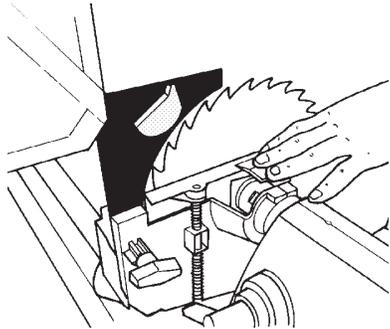
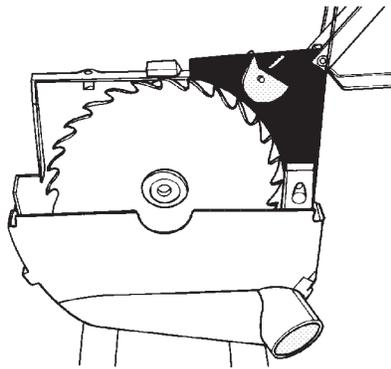
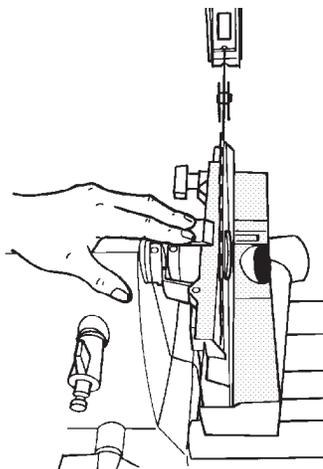

Figure B-109
Figure B-110
Figure B-111
92. Make sure the riving knife is fully seated between the guard and the lock plate, as in Figure B-109. The curved portion of the riving knife should be very close to the saw blade teeth (about 1/8"), as illustrated in Figure B-110. Tighten the guard lock knob (210). Look to see if the riving knife is centered with the saw blade, as shown in Figure B-111.